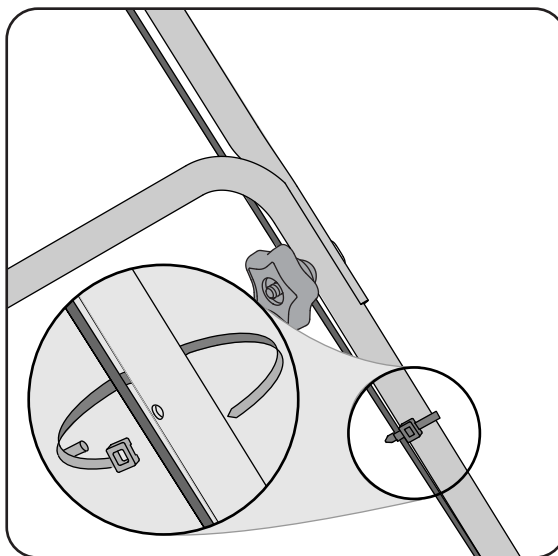

Figure 4
4. Insert post on cable ties into holes provided on the lower handle. Pull cable tie tight and trim excess. See Figure 4.